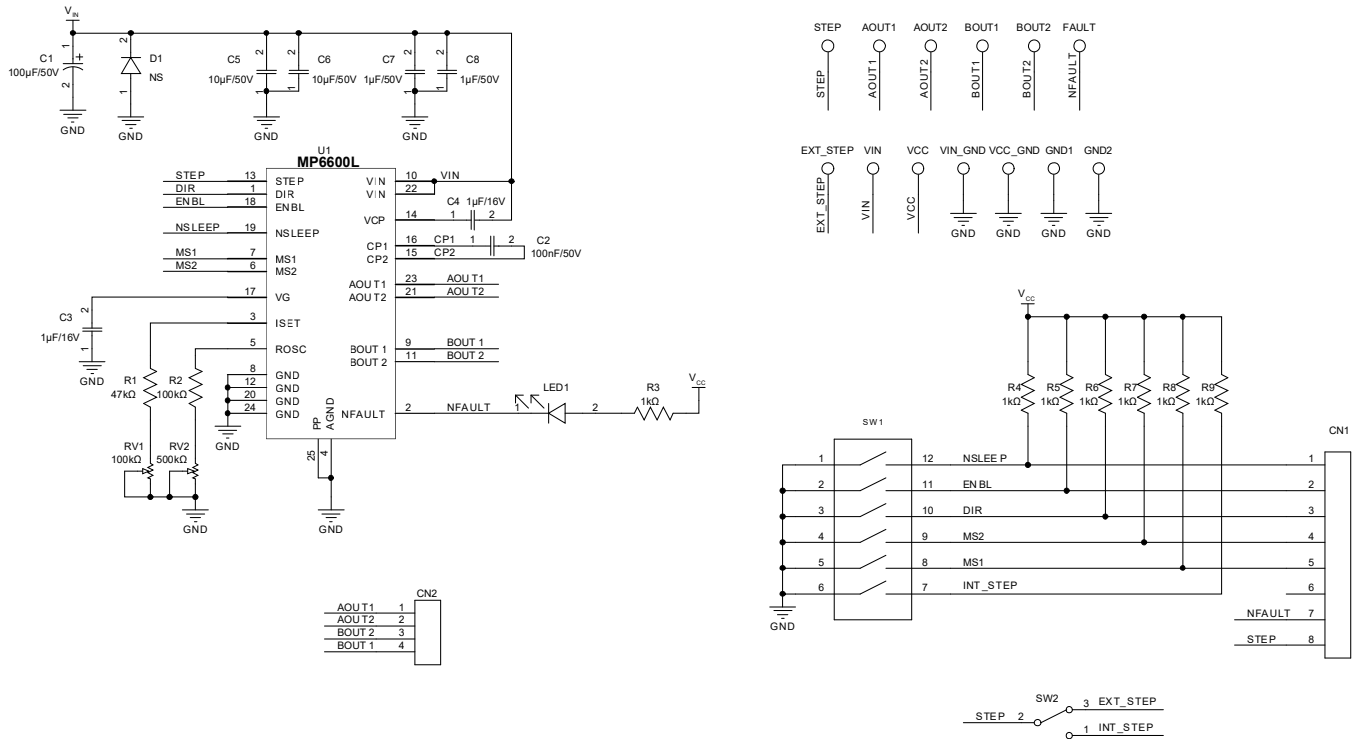

Figure 1: Evaluation Board Schematic
2. Switch SW2 to the top side (Terminal 3 in Figure 1 on page 3) to enable the external step signal input from the EXT_STEP connector.